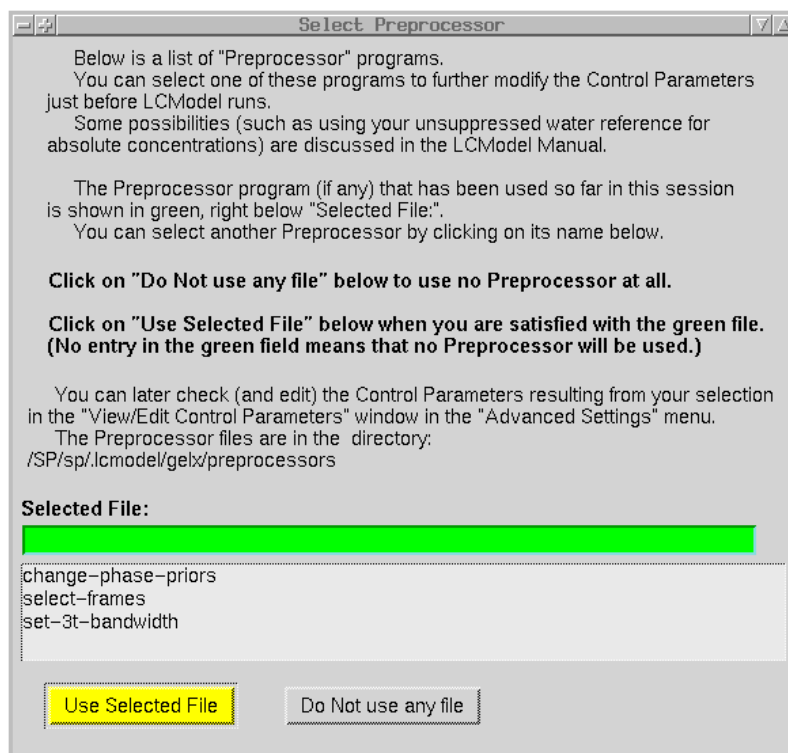

Figure 7.15: Here you can view and/or change the Preprocessor that will be used by LCMgui.
Only files in the directory `$HOME/.lcmodel/???/preprocessors/` will be available as Preprocessors in Figure 7.15. Here, `???` = **bruker**, **ge5**, **gelx**, **marconi**, **philips**, **siemens**, **toshiba**, **varian**, or **other**, depending on which type of data you selected in Fig 6.3.
- Click on “Change Preprocessor” to produce the window in Fig 7.15. (If there is no Preprocessor script in the directory, then you will be told this and given the chance to continue.)
change-phase-priors : GE automated Probe spectra usually need only very small phase corrections, and this prior information is used by default. However, this can cause huge phasing errors, if you have non-standard data requiring large phase corrections. If analyses of non-standard data show poor phasing, then you should first edit the file `$HOME/.lcmmodel/???/preprocessors/change-phase-priors` as explained in the file (where `??? = ge5 or gelx`). Then select this Preprocessor in Fig 7.15.
set-3t-bandwidth : LCMgui assumes that the bandwidth of 3T data is 5000Hz. If this is not the case with your 3T data, then edit the file `$HOME/.lcmmodel/gelx/preprocessors/set-3t-bandwidth` as instructed in the comments there. Then select this Preprocessor in Fig 7.15.